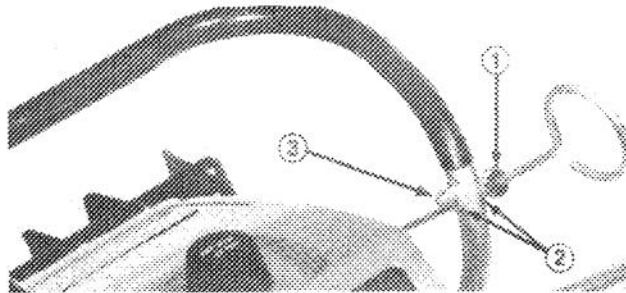

Figure 2
2. Mount vane control to lower handle with eyebolt, two curved washers and a capnut (Fig. 2). Note position of washers.